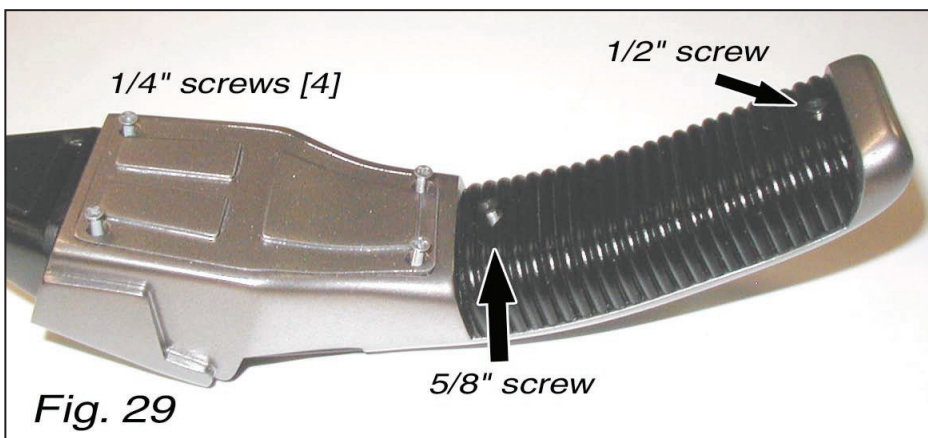

Fig. 29
Step 17: Screw on the bottom plate and the grip [Fig. 29], and you're done!